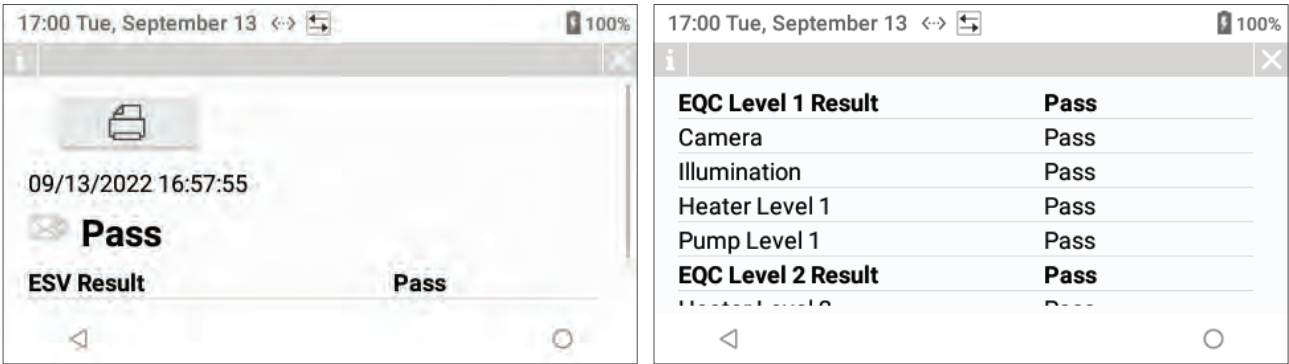

Figure 65: View Test Result Details
- **View details of the test result** – Select **Result Details** (Result Details) and detailed information about the test result is displayed. Select **ESV Result**, **EQC Level 1 Result**, or **EQC Level 2 Result** (Figure 65) to display the individual components that were tested during the EQC test.